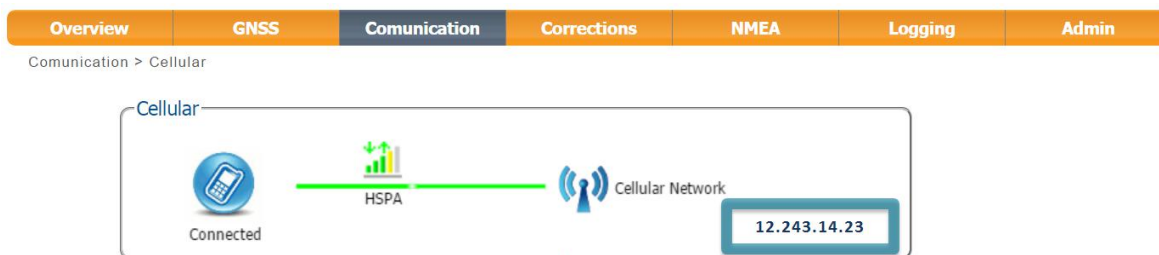

Figure 5-7: Cellular connection active with assigned IP address indicated
- When the cellular modem is connected this will be indicated by an active green cellular connection line in the 'Communication/Cellular' window as shown in Figure 5-7. Take note of the IP address¹ indicated as it will be needed for the rover configuration in the next step.